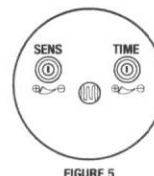

FIGURE 5
Observe the two controls on the sensor - Figure 5.
- Sets the sensitivity of the Motion Sensor - Figure 5. SENS should be set at maximum. Turning SENS adjustment knob clockwise will increase motion sensor sensitivity. Counterclockwise will decrease sensor sensitivity. A lower setting would reduce false triggering by small animals.